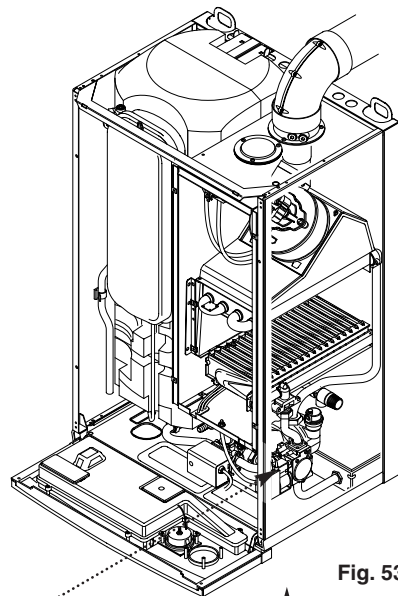

Fig. 53
1. Undo the two screws securing the outercase bottom panel and remove the panel (Fig. 53).